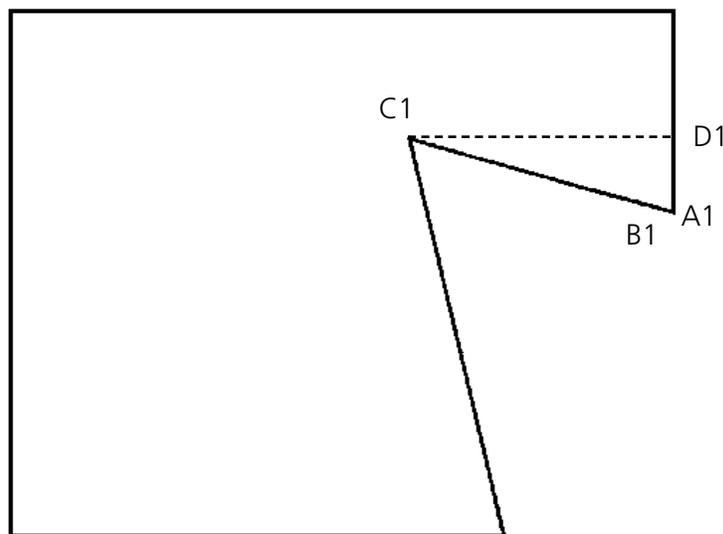

Figure 3-56
4. In the illustration in Figure 3-56, . This will identify the 'A' end of the first line of the first fill.
7. Refer to rule #4 and enter a Mk2 at point B1 as shown in the illustration Figure 3-56. This will identify the start of the first side of the fill.
Now, as shown in Figure 3-56, the monitor should display the triangular section you just digitized in a fill pattern that enters at point A1 and exits at point D1. If you want the fill stitching to exit at the left of the triangle, you may interchange points C1 and D1 when you digitize. This is because point D1 is always the point where the stitching will exit.